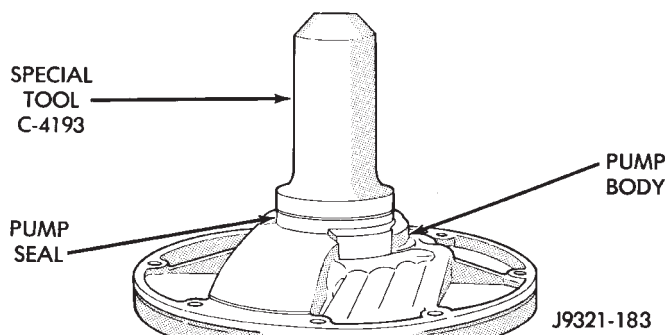

Fig. 130 Pump Oil Seal Installation
(12) Install new oil seal in pump with Special Tool C-4193 and Tool Handle C-4171 (Fig. 130). Be sure seal lip faces inward.
(13) Install new seal ring around pump housing. Be sure seal is properly seated in groove.
(14) Lubricate lip of pump oil seal and O-ring seal with transmission fluid.